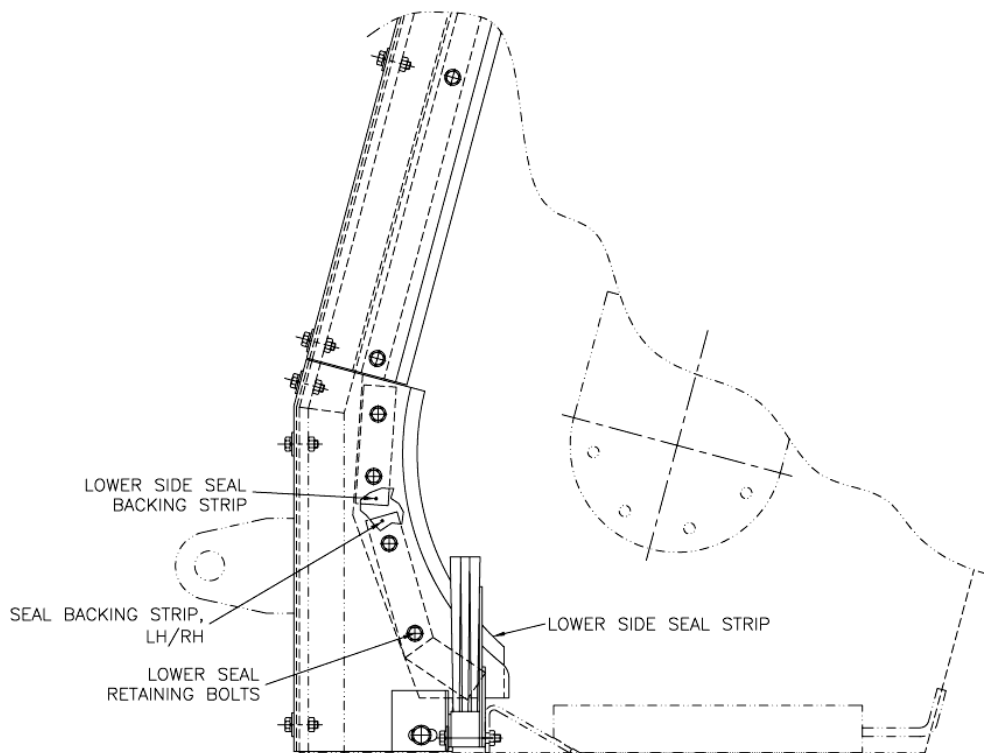

Figure 4-9. Detail of Lower Seal Area
3. Remove the bolts from the lower seal cleats. See figure 4-9.
Use the following procedure to reassemble the lower seal (see figure 4-9):